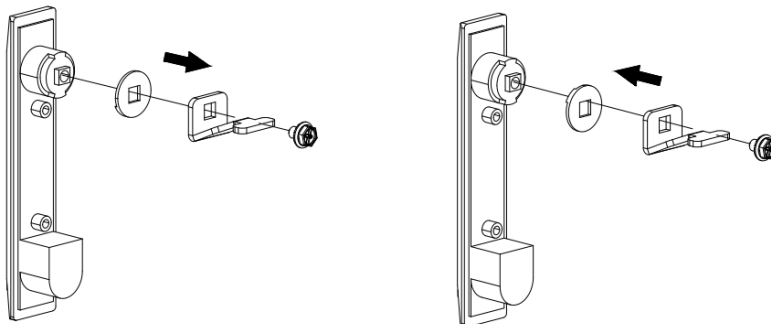
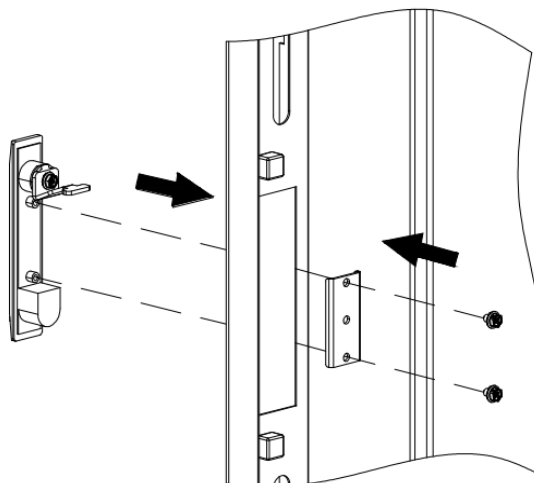

Figure 6.3.10
Figure 6.3.11
- Remove the cam screw, cam washer, and cam. Rotate the cam washer 90 degrees and the latch 180 degrees (Figure 6.3.10). Install the handle on the door in the desired orientation and fasten the lock with the two M5 hex screws (Figure 6.3.11).